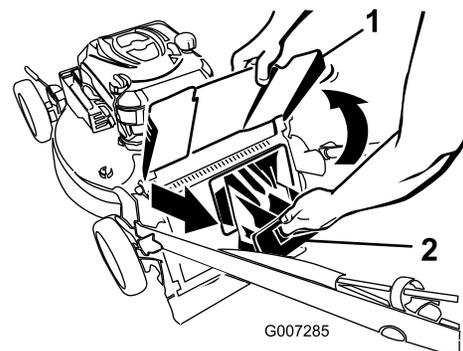

Figure 20
2. Raise and hold up the discharge deflector (Figure 20).
3. Pull out the rear discharge plug (Figure 20).
1. Raise and hold up the discharge deflector (Figure 20).
2. Pull out the rear discharge plug (Figure 20).